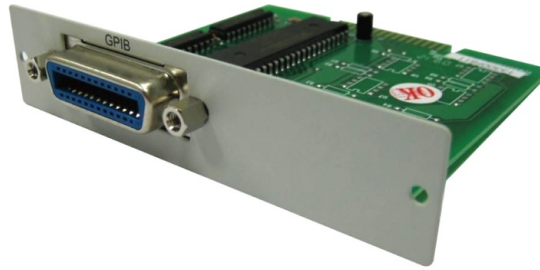

Fig 2-5 3305G GPIB interface
- Please make sure the lock screws are firmly hand-tightened, use a Screwdriver only for the removal of screws. Fig 2-5 shows the rear